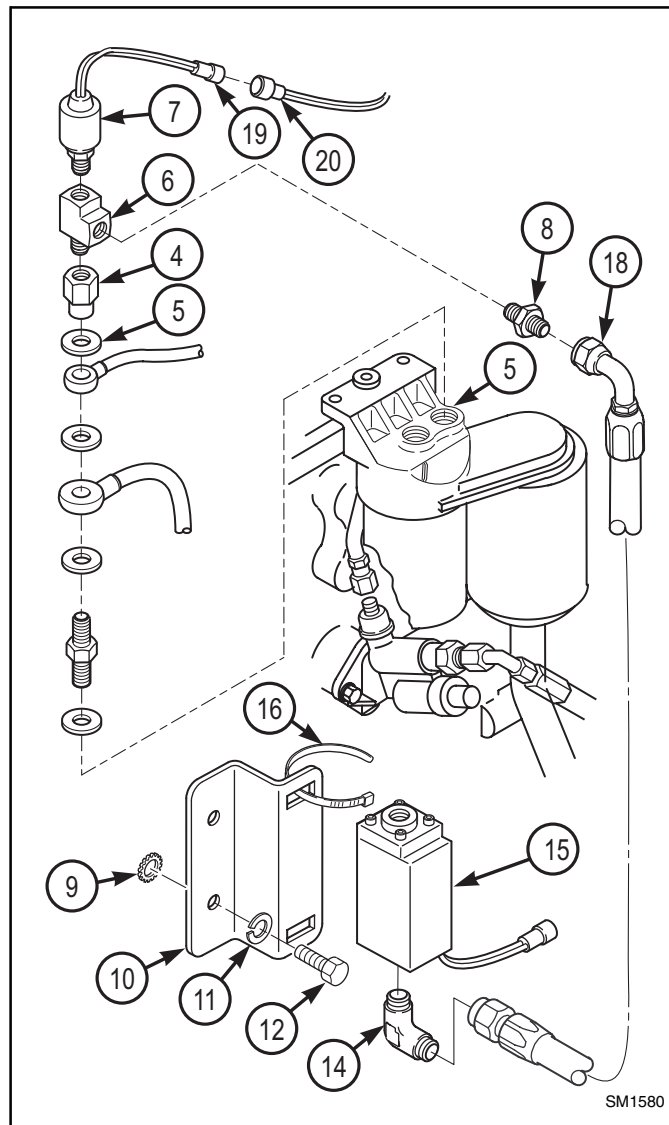

Figure 7
- c. Install washer (5) see removal and old engine banjo inlet screw (4) in the fuel filter system (5) of the new engine block. (Figure 7).
- d. Apply sealing compound to tee (6), fuel pressure sender (7) and adapter (8) of the old engine. (Figure 7).
- e. Install tee (6), fuel pressure sender (7) and adapter (8) on old engine banjo inlet screw (4). (Figure 7).
- f. Install two starwasher (9), bracket (10), lockwashers (11) and screws (12) on new engine block. Tighten to 50 lb-ft. (Figure 7).
- i. Install fuel differential pressure switch (15) on bracket (10) with (from the kit) two tie straps #8584001 (16). (Figure 7).
- k. Install (from the kit) hose #2714352 (18) on elbow (14) and adapter (8). (Figure 7).
AFTER INSTALLATION OF NEW ENGINE (Figure 7)